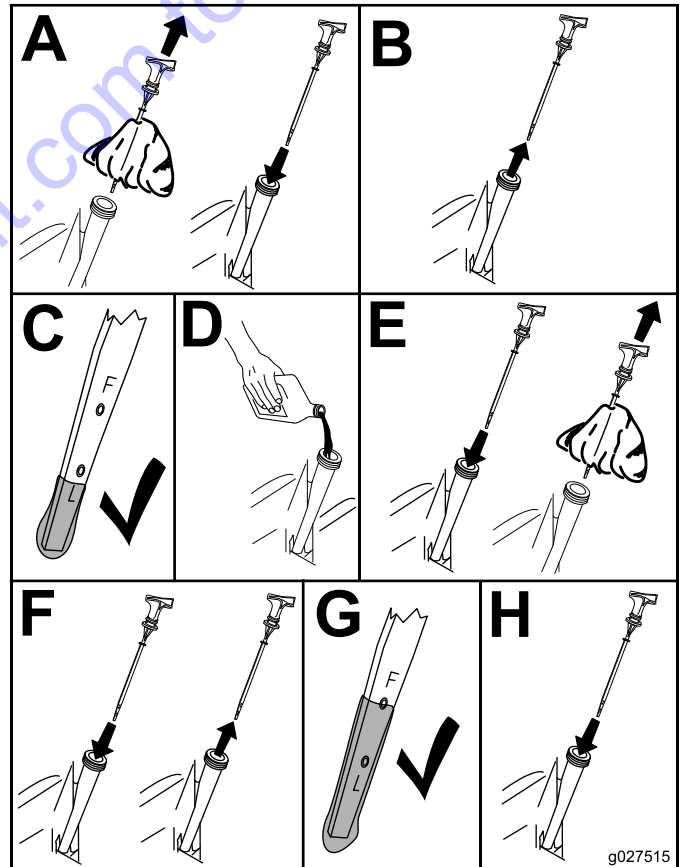

Figure 21
4. Check the engine-oil level as shown in Figure 21.